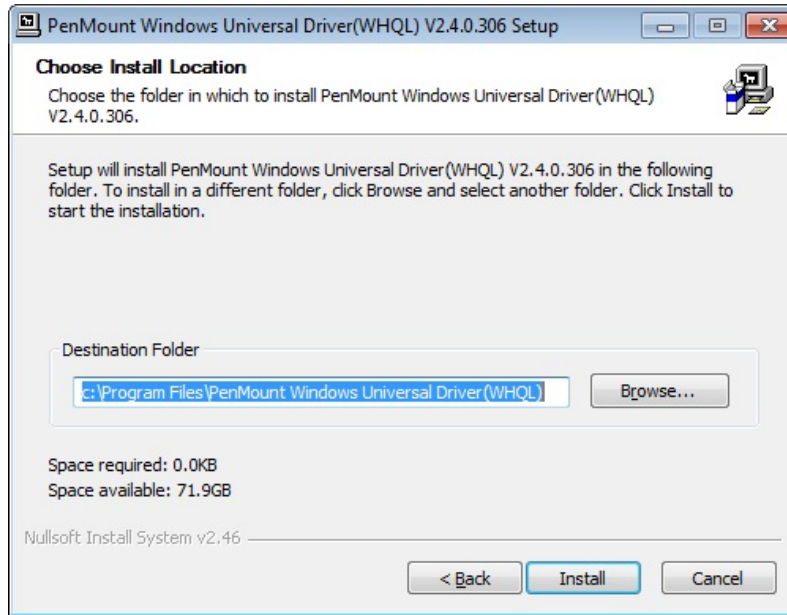

Figure 6-30: Choose Destination Folder
Step 7: Select the destination folder where the setup files will be copied to (**Figure 6-30**).